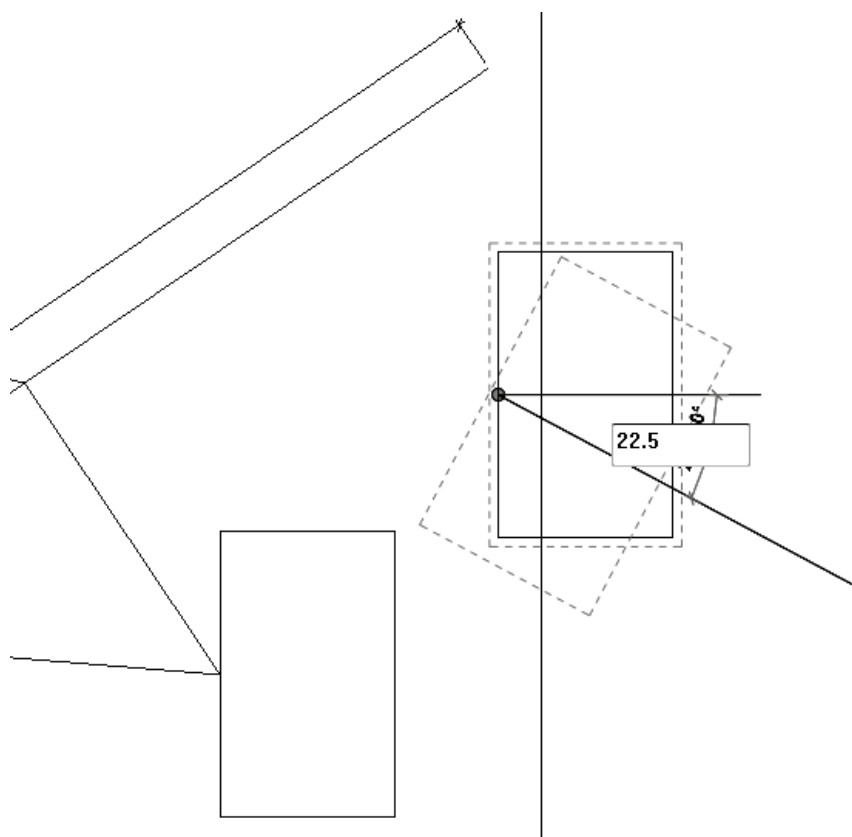

FIGURE 3-3.10 Rotate tool; typing in exact angle
21. Start moving your mouse downward, then type **22.5** and then press **Enter** (Figure 3-3.10).